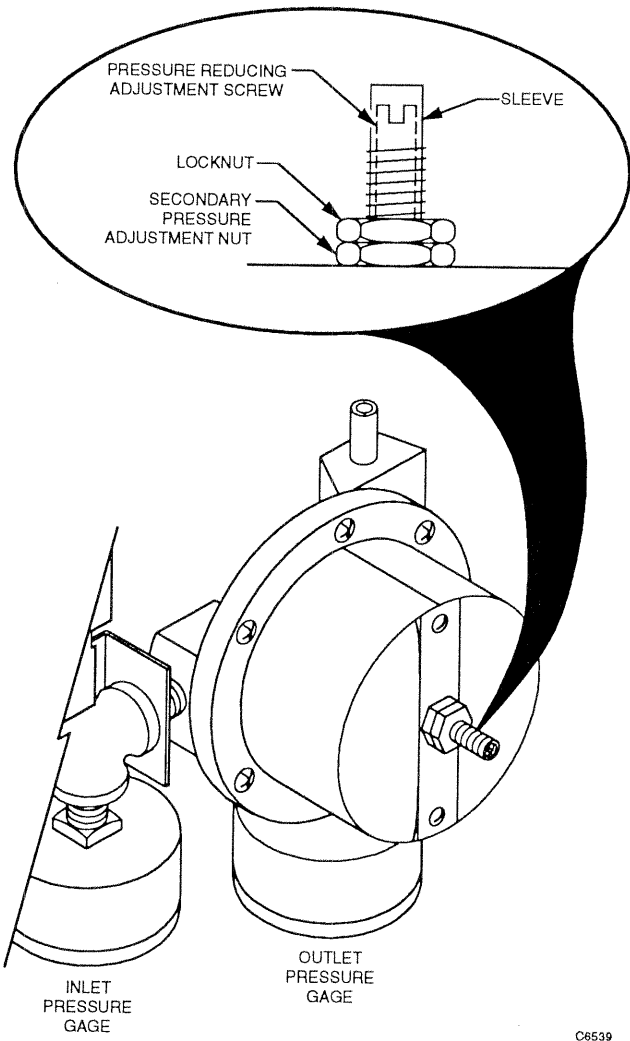

Fig. 7. PP902D Adjustments.
2. Loosen the locknut (Fig. 7) on the sleeve over the pressure reducing adjustment screw.
1. Pilot port (P) pressure must be 0 psi (0 kPa) before the primary pressure can be adjusted.
2. Turn the pressure reducing adjustment screw (Fig. 7) clockwise to increase the outlet pressure to the *lower* of the two desired pressures. The pressure reducing adjustment screw is located inside the sleeve of the secondary adjustment assembly.